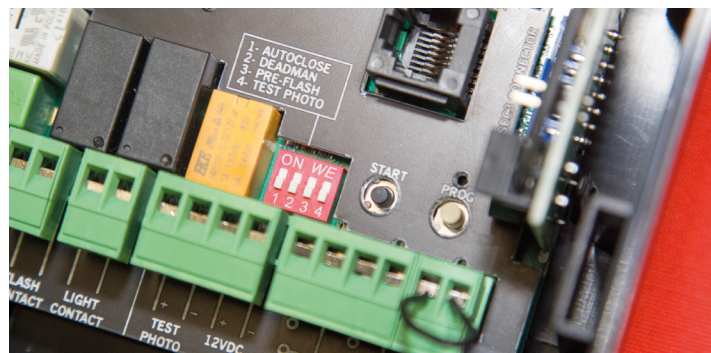

fig.10
- 2** Press and hold the white "PROG" button on the main receiver board for 2 seconds until the red LED lights up and stays on, this is next to the start button (**fig.10**).
- (1)** The curtain will open slightly and close again.
- (2)** The curtain will then open and fully stop.
- (3)** Press & release the "START" button again (**fig.10**) and the curtain will close, pause and then reopen.
- (4)** On final closing, when the curtain is 20mm from the floor, press and release "START" button. The curtain will carry on moving but the red light above "PROGRAM" will flash purple & red.